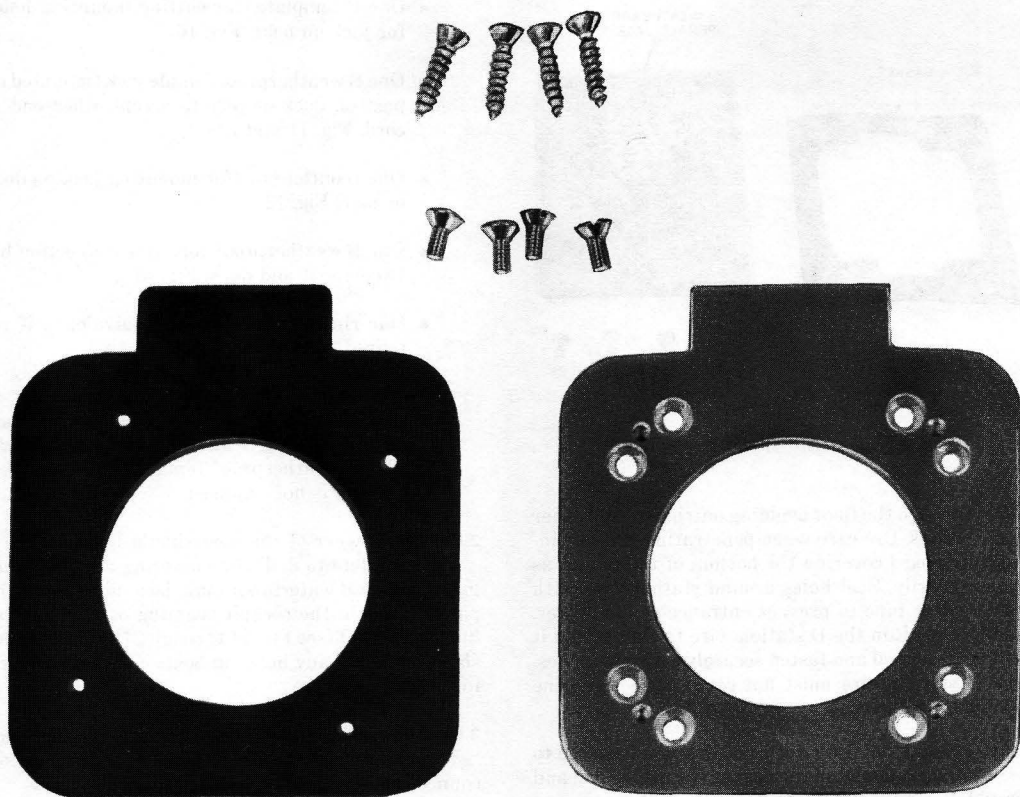

Fig. 12—B Adapter Plate
2.11 The B adapter plate (Fig. 12) is used to adapt the B waterproof jack to a boat where the KS-8420 jack had previously been mounted.